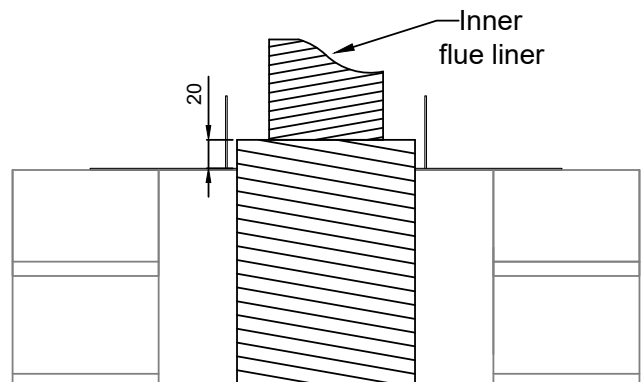

Figure 4-9: Outer flue liner and top plate in final position
6. Cut off any excess length of the outer flexible liner, leaving approximately 20mm (at least 2 corrugations) above the top plate. Refer to Figure 4-9.